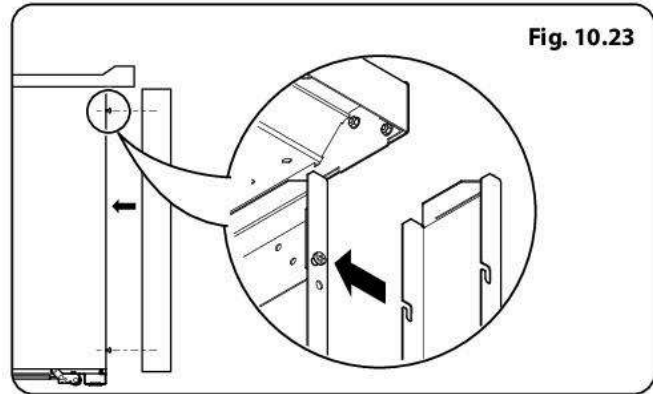

Fig. 10.23
2. Using the cut-outs, site the side extension onto the protruding screw heads (**Fig. 10.23**).